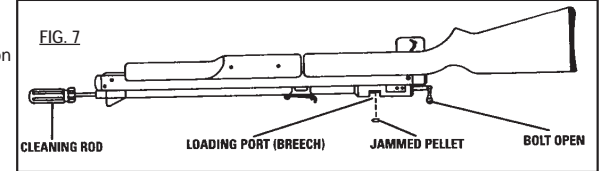

FIG. 7
- With the bolt in the open position, insert a ramrod in to the muzzle end of the barrel and gently push the jammed pellet in to the pellet loading port (forward of the bolt). (Fig.7)